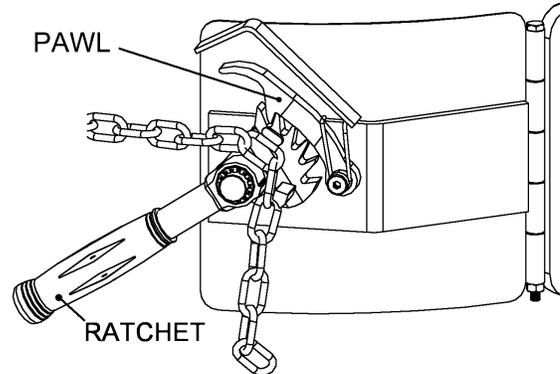

Figure 3.1
5. Drape the cinch chain across the front of the drum and insert one link into the slot on the ratchet handle (item #44). Turn the ratchet handle clockwise to tighten the cinch chain around the drum (Figure 3.1).